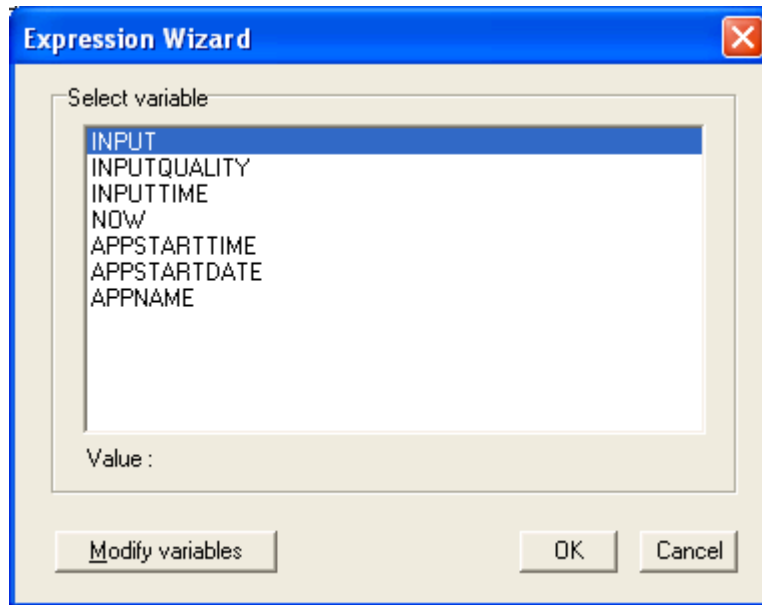

Figure 49 - Select Variable Window
11. Click on the **Variable** button to go to the **Select variable** (Figure 49) window. After selecting the required variable, click on the **OK** button to close the **Select variable** window and return to the **Expression Wizard**.